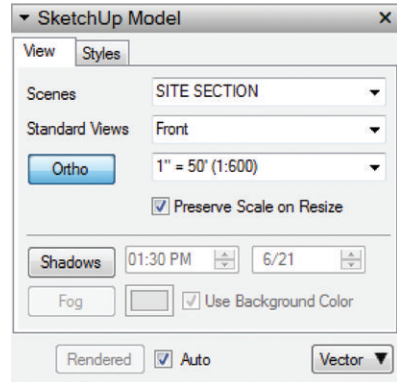

Figure 15.34 The SketchUp Model Inspector settings
2. Within the SketchUp Model Inspector, assign the SITE SECTION scene to the new viewport. Set the viewport to render as Vector. Set the scale to 1" = 50' (Figure 15.34).